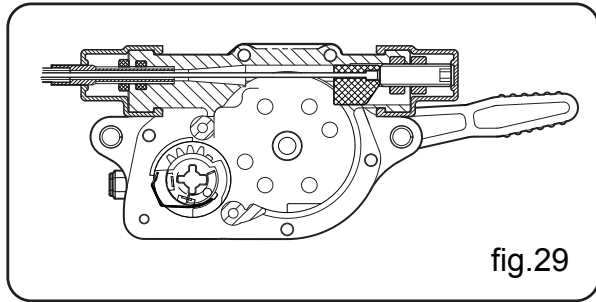

fig.29
(1) Disassembly
- In case of removing the fuel cock (3), move to high speed position of the lever (2) ready. (fig.29)
- A. In case of removing the stop switch (4), move to high speed position of the lever (2) ready. (fig.29)